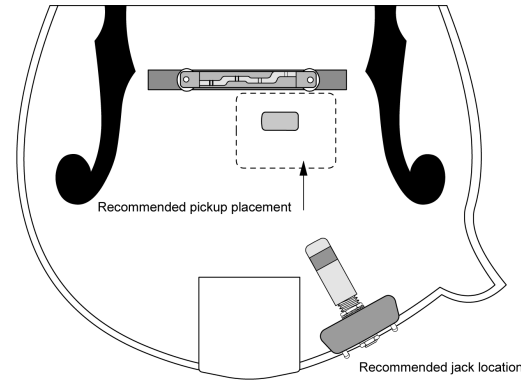

Fig. 1
- Put a dab of putty on the underside of the Radius and smooch the pickup onto the instrument top behind the treble side of the bridge; (see fig. 1 for recommend placement).
upper and lower edges of the instrument. Using the enclosed key gradually tighten the adjusters, alternating between the left and right side until the clamp is securely fastened (See fig. 1 for recommend jack placement). Be careful not to scratch the instruments finish with the key.
- First, find the sweet spot. With freshly cleaned fingers, tear off a dab of the putty (included), and spread it on the entire bottom surface of the pickup. The Radius is rather lenient for placement, but we recommend you begin behind the bridge on the treble side of the top (See fig. 1). Make sure to thoroughly clean all dust, oil, and fingerprints off of the top of the instrument prior to installing the pickup. Set the pickup onto the top of the instrument in the recommended area and apply moderate pressure twisting it back and fourth until it feels secure. Now plug the pickup in to a high quality acoustic amplifier or PA and listen. Experiment with placement until you find the best location/sweet spot. Once you have chosen a location you may replace the putty with the clear double stick adhesive (included) for a more secure installation, or if you like you can keep the putty as the final install. *Note: The longevity of the*